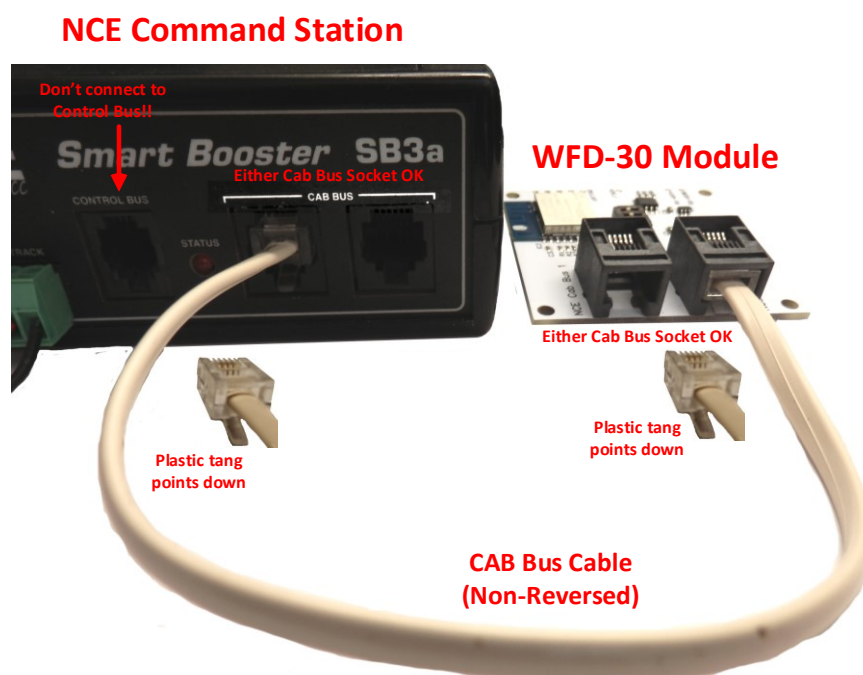

Figure 2 Connecting the WFD-30 Module to your NCE Command Station
(3) **Connect:** Use an NCE 4-wire Cab Bus cable to connect the WFD-30 to your NCE Command Station as in Figure 2.